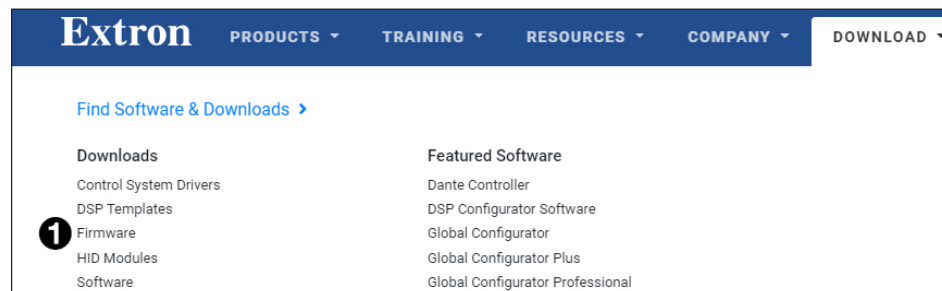

Figure 64. Downloading Firmware from the Extron Website
1. On the Extron website, www.extron.com, go to the **Download** tab and click **Firmware** (see figure 64, ❶).